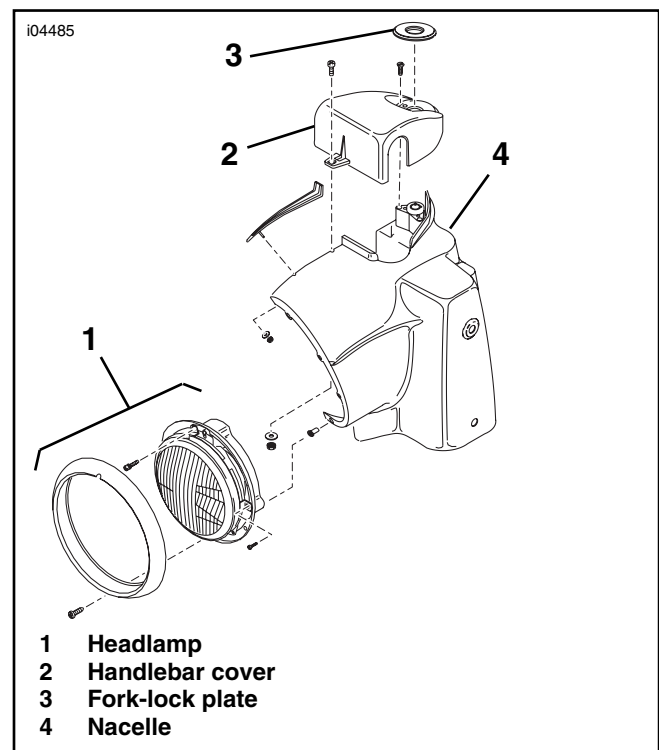

Figure 8. Nacelle, Headlamp, and Handlebar Cover (FLHR/ FLHC Models)
4. See Figure 8. Carefully pry off the fork-lock label plate (3) from the handlebar cover (2). Remove the entire plastic plate; do not remove the adhesive label from the plate.